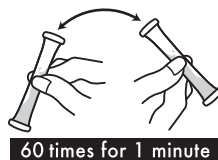

Fig.6
5. Shake the tube 60 times for 1 minute. (Fig.6)